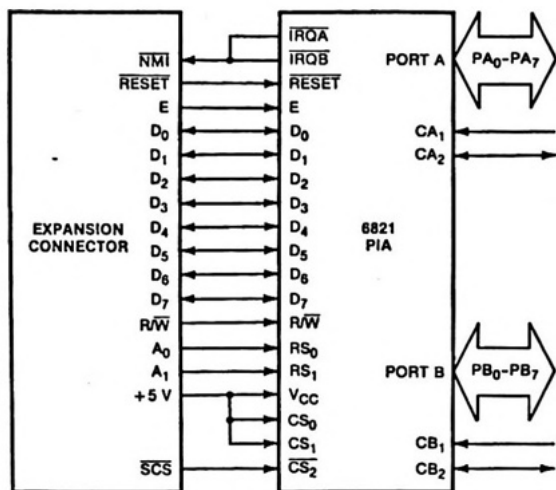
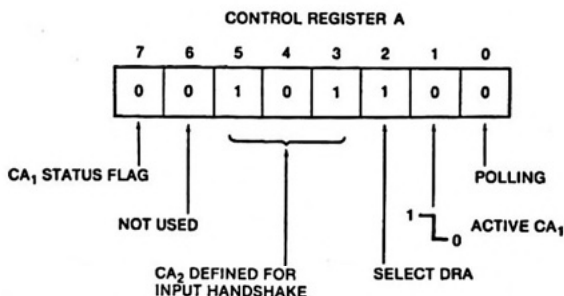

Figure 4-1
Figure 4-7
The circuit in Fig. 4-1 shows how the 6821 PIA can be connected to the Color Computer expansion connector. First, notice that the PIA is powered by the +5-volt dc supply voltage available on the expansion connector. The CPU E clock signal on the expansion connector is connected directly to the E clock signal input on the PIA. This is the only clock signal required for the interface. Thus, the Q clock signal will not be used for the PIA interface.
The PIA has three *chip-select* lines labeled CS0, CS1, and CS2 in Fig. 4-1. These three lines must be activated to enable the PIA for any data transfer operations. Normally, the address bus lines must be decoded to enable the PIA via these chip-select lines. This would be accomplished by placing an address decoder circuit between the address bus lines and the PIA chip-select lines. However, you can take advantage of the internal decoding provided by the Color Computer spare select, or $\overline{SCS}$, signal at pin 36 of the expansion connector. Recall that this output signal is active (low) whenever the computer accesses any of 32 addresses within the range of 65344 through 65375. We will, therefore, assign the PIA to this address range in the computer memory address map. To do this, you must connect the $\overline{SCS}$ line on the expansion connector to the $\overline{CS2}$ line on the PIA. The other two PIA chip-select lines (CS0 and CS1) must be permanently tied high to the +5-volt supply. The disadvantage of using the $\overline{SCS}$ line to enable the
In addition to the chip-select lines, the PIA has two register-select lines labeled RS0 and RS1 in Fig. 4-1. These two lines are used to select the registers within the PIA once it has been enabled via its chip-select lines. You must connect RS0 and RS1 to address lines A0 and A1, respectively, on the expansion connector. This will assign the PIA registers to four consecutive addresses as shown in Table 4-2. Notice that these are the first four addresses of the 32 addresses decoded by the Color Computer $\overline{SCS}$ line. Other addresses within this 32 address space can also be used to enable the PIA and access its internal registers. However, we will only use the first four (65344–65347). Notice also from Table 4-2 that address 65344 will select either data register A (DRA) or data direction register A (DDRA). In the same way, address 65346 will select either data register B (DRB) or data direction register B (DDRB). Recall that the exact register selected depends on the bit 2 status of the respective control register.
Table 4-2. The PIA Register Address Assignments Provided by the Expansion Connector Interface Circuit in Fig. 4-1
Finally, there are two interrupt request lines available on the PIA, labeled $\overline{\text{IRQA}}$ and $\overline{\text{IRQB}}$. You will notice from Fig. 4-1 that we have wire-ORed these lines together and connected them to the nonmaskable interrupt, or NMI, input line on the expansion connector. This will allow an external peripheral device connected to the PIA ports to get the attention of the CPU. Recall that when the CPU receives a nonmaskable interrupt, it will automatically break away from what it is doing and service the interrupt by executing an interrupt service routine. The Color Computer is designed such that it will jump to RAM address 265 to be directed to the interrupt service routine whenever it receives a nonmaskable interrupt, or NMI, signal. This will be discussed in more detail shortly.
The remaining expansion connector lines are not required for the PIA interface. You will find that the PIA interface circuit in Fig. 4-1 will allow you to provide parallel I/O for several different computer interfacing applications. Devices that can be connected directly to the PIA interface in Fig. 4-1 include digital-to-analog converters, analog-to-digital converters, programmable timers, and parallel printers, among others.
The PIA interface discussed in the last section can be used to perform polling operations for I/O devices. Notice from Fig. 4-1 that each PIA port has two *control* lines. The control lines for port A are labeled CA1 and CA2. The port B control lines are labeled CB1 and CB2. These lines are used to provide both programmed and interrupt control of data transfers through their respective PIA port. We will discuss how I/O control is provided by the CA1 and CA2 control lines. The
You must determine the flag status by polling the respective status flag. For example, the PIA interface in Fig. 4-1 assigns the port A control register to address 65345. To poll the CA1 status flag (bit 7) would require a simple BASIC polling subroutine as follows:
an I/O device which tells the device that the CPU has completed the requested I/O operation. The output signal allows the I/O device to prepare for another operation. The PIA can also be used to generate this output signal. You might have noticed from the PIA interface circuit in Fig. 4-1 that the CA2 and CB2 control lines can be either input or output control lines while CA1 and CB1 are *always* input control lines. You have already seen how the PIA control lines can be used for input. Now, let's see how CA2 and CB2 can be used as output control lines. We will confine our discussion to port A, keeping in mind that the operation of port B is the same, except where noted otherwise.
Now, let's look at an example. Suppose you wish to configure port A of the PIA for input handshaking. The input device that is to be interfaced to port A will provide a high-to-low transition to get the attention of the CPU, and the computer will use a polling routine to determine when the input device requires service. The required control register bit configuration is shown in Fig. 4-7. Let's take a closer look at this configuration:
The decimal equivalent of the binary configuration shown in Fig. 4-7 is 44. Thus, the decimal value 44 must be written to the port A control register during the PIA initialization process. Now, if we assume that the PIA is interfaced to your computer as we discussed earlier (Fig. 4-1), the following simple one-line BASIC statement will configure the PIA for the input handshaking operation:
eration. Then, all you have to do is write, or POKE, the port A control register value (44) to address 65345. Recall that this is the address assigned to the port A control register by the PIA interface circuit in Fig. 4-1. Once the PIA is initialized, the computer must periodically poll the CA1 status flag by executing a polling subroutine as we discussed previously.